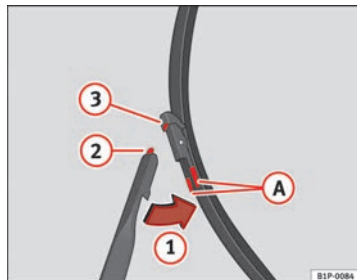

Fig. 148 Changing the front wiper blades
- Press on the side tabs (A) and release the blade moving it in the direction of the arrow (1) ⇒ fig. 148.
- Insert the tab (2) into the slot (3) of the blade ⇒ fig. 148.
- Move the blade towards the arm in the opposite direction of the arrow (1), until it clicks into position ⇒ fig. 148.